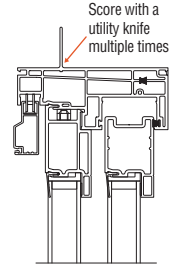

fig. 10
- With a replacement door installation the nailing flange will have to be removed. Using a sharp utility knife score the edge of the nailing flange where it meets the frame multiple times (**fig. 10**). With a pliers grip the flange and pull away from the cut to allow the vinyl to release from the frame. Repeat this for all sides. It may be easier to lay the door flat for this process being careful to protect the finish of the door.